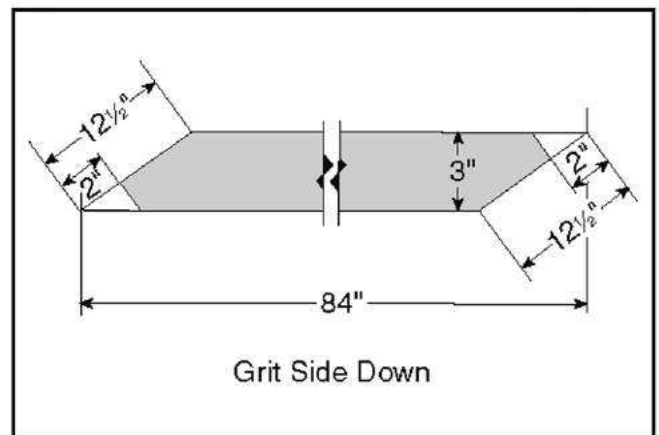

Figure 20. Sandpaper pattern for drum.
Note: Take care not to rip or tear the old sandpaper, so you can use it as a template when cutting out the replacement sandpaper strip. This is easier than using the drawing shown in **Figure 20**.
6. Use old sandpaper strip as a pattern, if at all possible. Otherwise, use pattern in **Figure 20**, to cut a new piece of sandpaper to the necessary shape. After cutting the 12½" angled sides, measure 2" along same sides and cut off ends with a knife.
—If the sandpaper *does not* fit into the right clamp, you may have inserted sandpaper too deeply into left clamp. Also, check to make sure the length, width, and angled cuts match the pattern in **Figure 20**. Make adjustments to sandpaper if necessary.